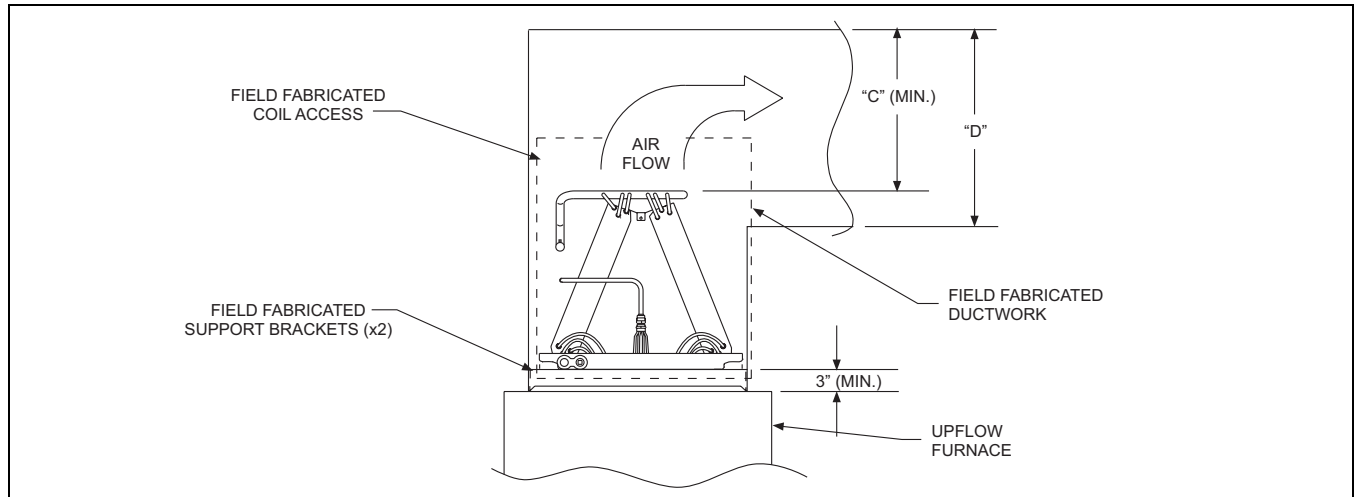
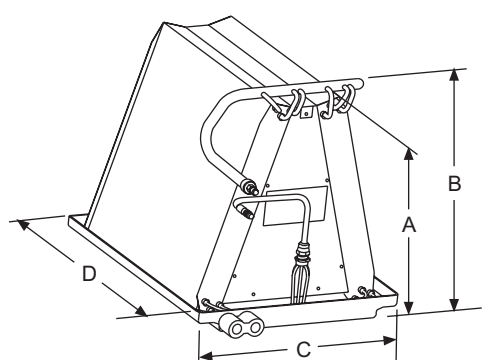

FIGURE 2: Upflow Coil Installation
FIGURE 3 : Coil Dimension
NOTE: Dimension "D" should be at least 1.5 times dimension "C". (See Figure 2).
1. Create opening in furnace duct large enough to allow coil installation (See Figure 2). See Figure 3 for coil dimensions.
2. Install field fabricated support brackets using screws or rivets (See Figure 2). Brackets should be installed level or pitched slightly toward the drain end (high in the back, low in the front). Pitch should not exceed 1/4" per length of coil.
3. Position the coil over the furnace opening as shown in Figure 2.
Do Not drill any holes or drive any screws into the front of the supply duct in order to prevent damaging coil tubing (See Figure 2).